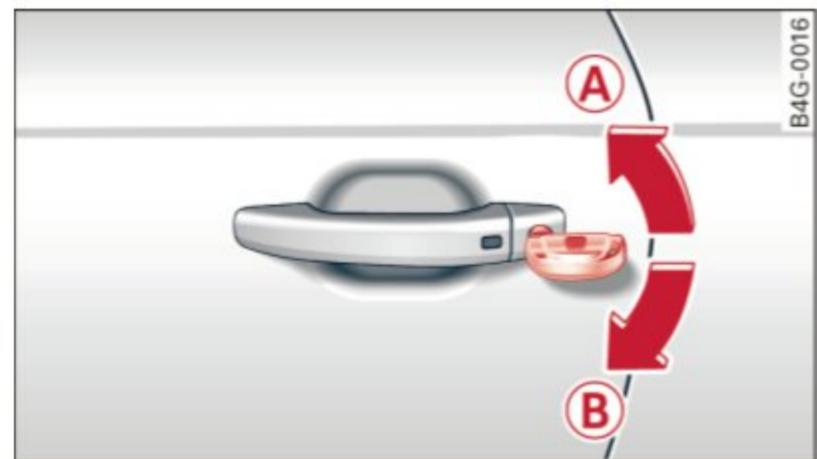

Fig. 36 Key turns for opening and closing
- ▶ Turn the key to position ⇒ *fig. 36* (A) until all the windows have reached the desired position and the power sunroof is open.